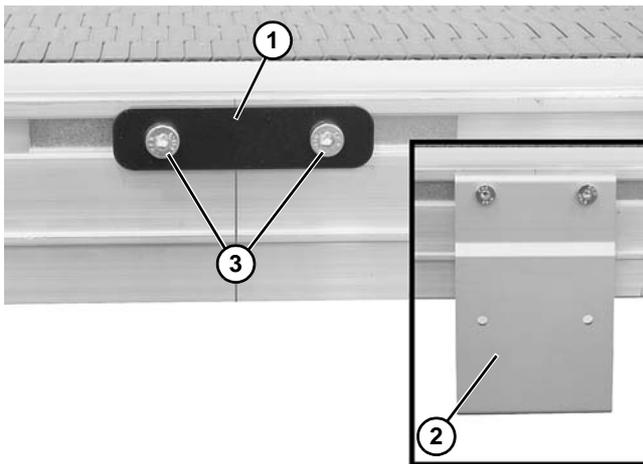

Figure 6
2. Join conveyor sections and install connector brackets (Figure 6, item 1) or connector/mount brackets (Figure 6, item 2) and screws (Figure 6, item 3) on both sides as indicated.
3. Tighten screw (Figure 6, item 3) to 7 Nm on both sides of conveyor.